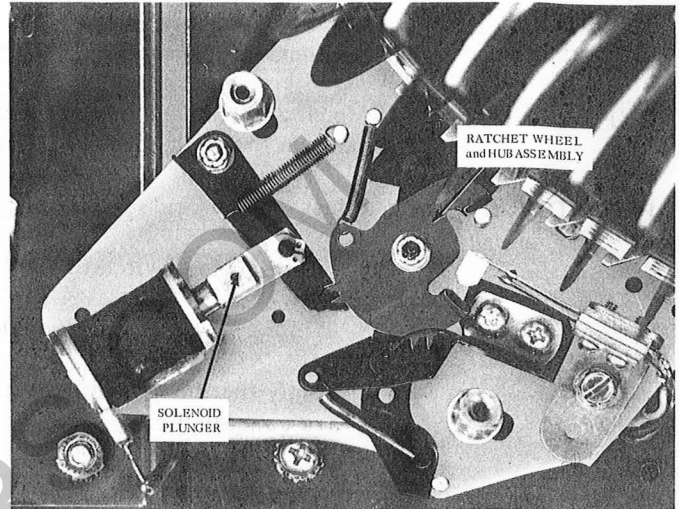

FIGURE 2
9. Manually actuate SOLENOID PLUNGER to release RATCHET WHEEL and HUB ASSEMBLY as shown in Figure 2.